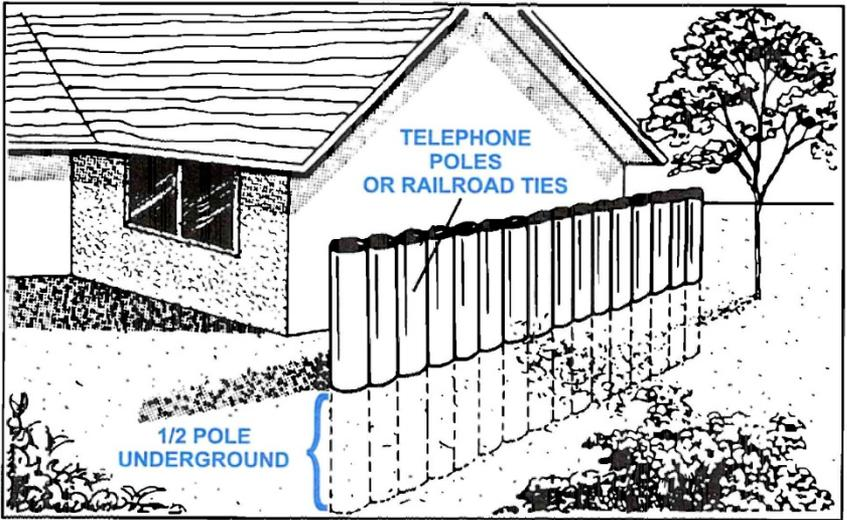

Fig. 18 TELEPHONE POLE OR RAILROAD TIE BARRIER
- TRY** to install more permanent measures to protect your home. In general, the problem of debris flows will exist for several years after a burn. Sandbags usually last for only a year (**Figs. 18 and 19, page 21**)